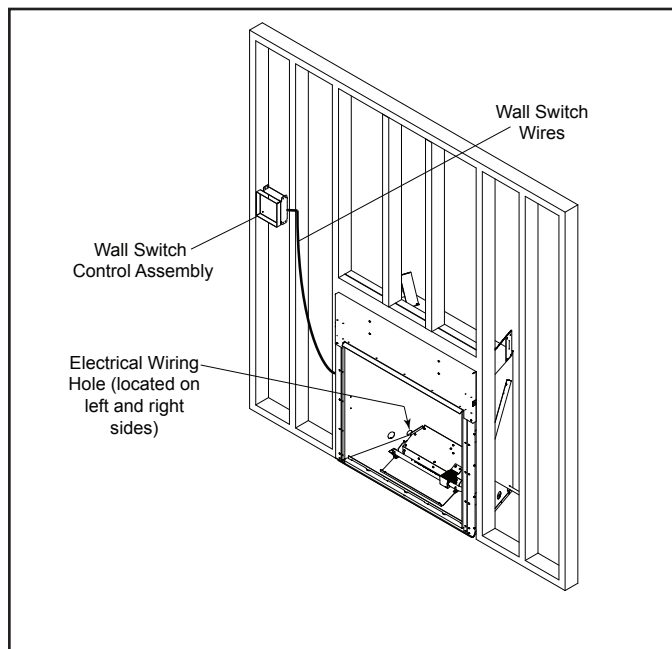

Figure 3.8 Wall Switch Mounting
- Using the nailing tabs, mount control in the desired location, within 14 feet of the appliance. See Figure 3.8.
- This appliance has a drain pan incorporated into its base. Across the bottom front a shield is installed to allow a moisture barrier to be taped in a manner to shed moisture out of the appliance. See Figure 3.8.